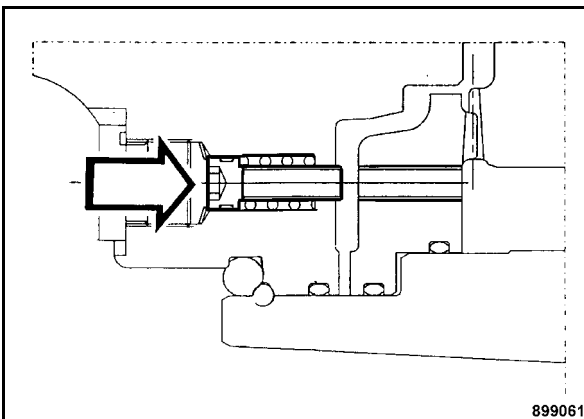

Fig. 52
- Push both screws (Fig. 52) in against the springs.
- Loosen both screws completely (Fig. 52) to apply the brake.